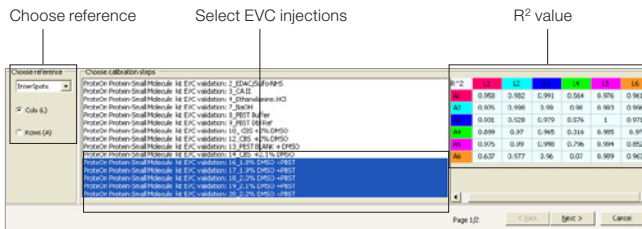

Fig. 6. Choosing reference and EVC injections, and viewing the R^2 value of the fit.
- In the step list, select a minimum of three EVC injections, if they are not already selected (Figure 6). The wizard displays EVC calibration data as thumbnail plots that show a best-fit line. These plots are accompanied by a table that lists the R^2 values for the best-fit lines.